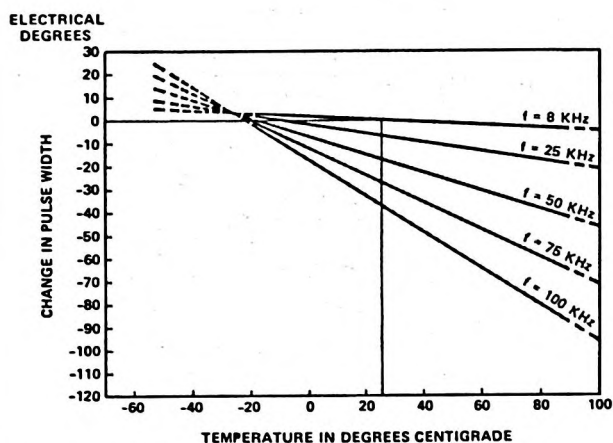

Figure 3. Typical Change in Index Pulse Width Due to Speed and Temperature
- In a properly assembled lot, 99% of the units when run at 25°C and 8 KHz should exhibit an index pulse width greater than 260 electrical degrees and less than 460 electrical degrees. To calculate index pulse widths at other speeds and temperatures add the values specified in Figures 3 or 4 to the typical 360° pulse width or to the maximum 99% values specified in this note.